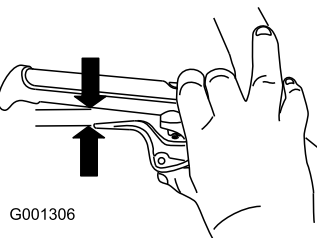

Figure 9
5. Squeeze the lever fully, then check the gap between the bottom of the handle and the end of the wheel-clutch lever (Figure 9).